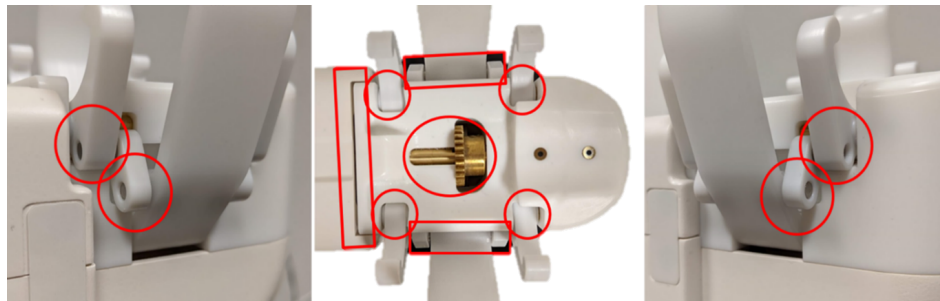

Figure 60: Areas to inspect on Positioning System
3. Repeat steps 1 and 2 as necessary until no visible soiling remains, closely inspecting the areas around the gripper arms and gear (*Figure 60*).